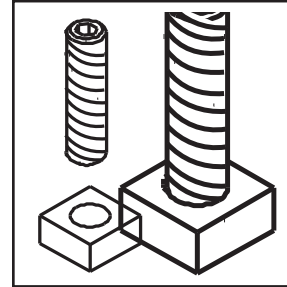

Figure 21.2
8. Thread allen bolts through nuts until flush (**Figure 21.2**)